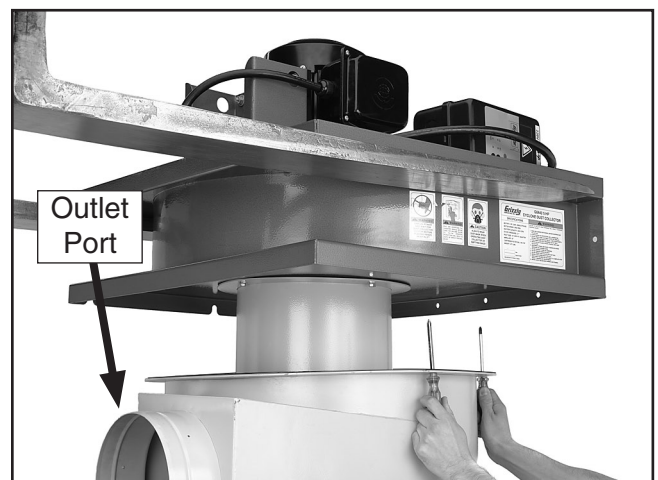

Figure 20. Aligning the mounting holes.
- Using two punches or Phillips screwdrivers as alignment guides (see **Figure 20**), lower the blower housing assembly onto the intake barrel assembly.